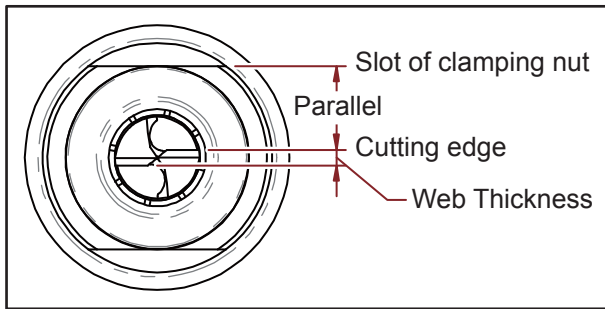
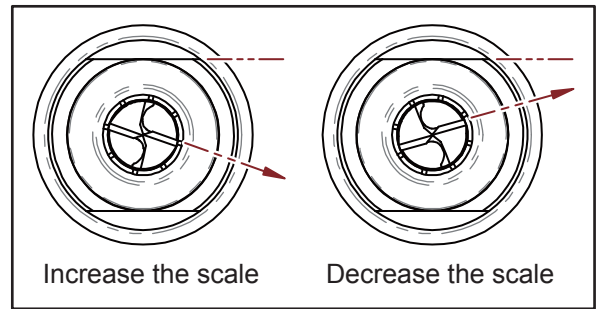

Fig. 7-3
Fig. 7-4
- ※ After taking the Chuck set out, make sure the cutting edge of the drill is parallel with the slot of clamping nut (Fig. 7-3), if it is not parallel, please re-adjust it. (Fig. 7-4)
- ✘ Always keep the parallelism before starting the grinding procedure. (Fig. 7-3)